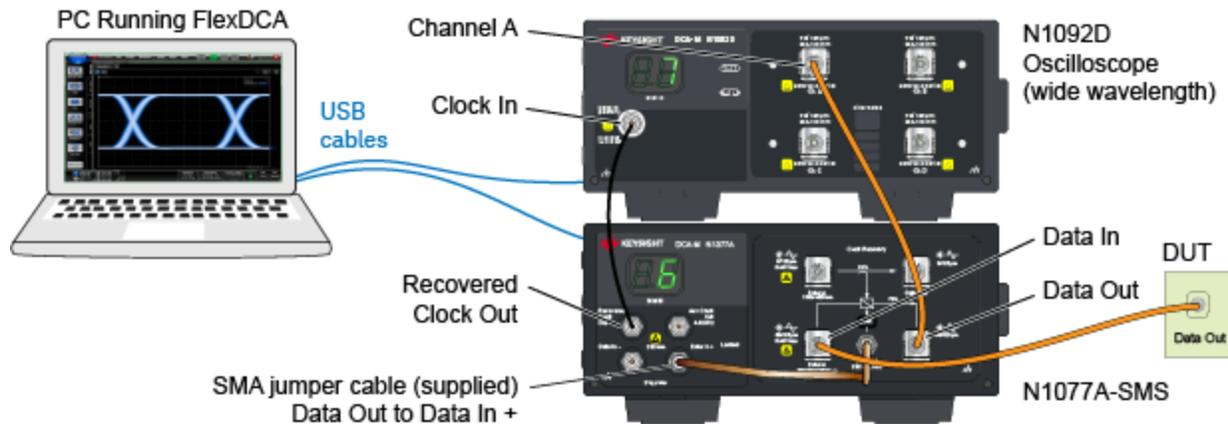

Figure 32. Typical Connection Setup
3. Connect the N1077A as shown in *Figure 32 on page 74*. If connecting to an N1000A (or 86100D) instead of a PC, be sure to connect the USB cable to the DCA-X's rear-panel USB port. Notice in this example that the N1077A multimode optical connectors are used: